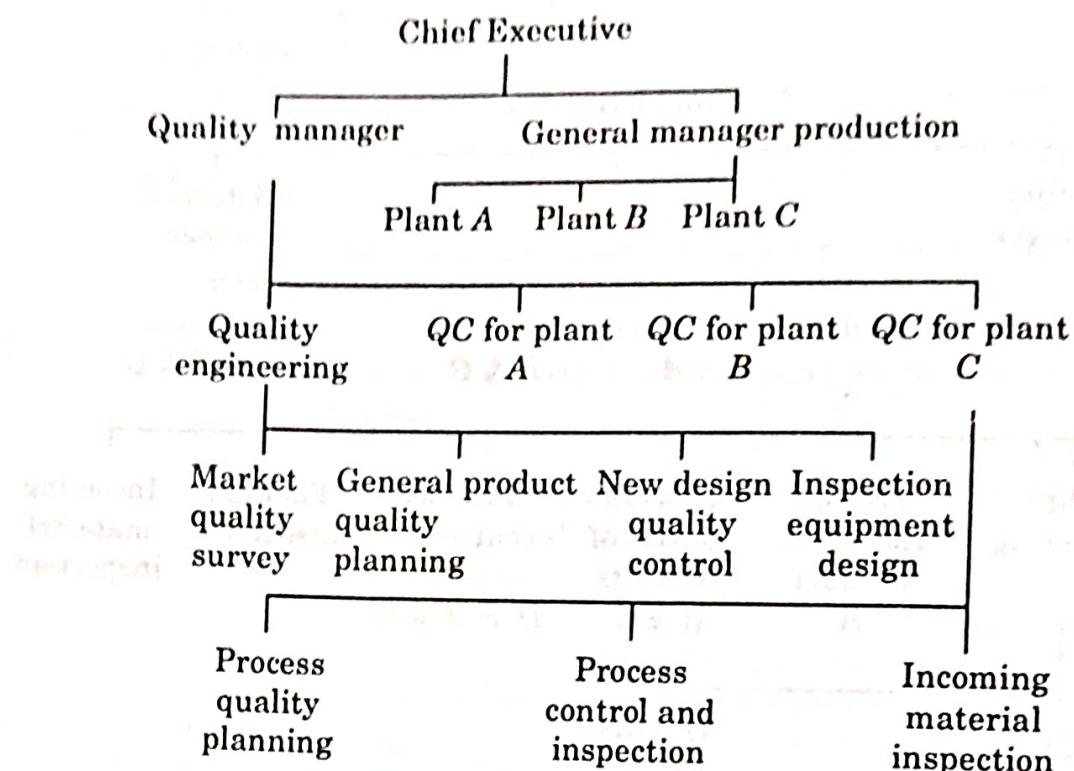

Fig. 2.3.3.
1. The Fig. 2.3.3 shows the quality organization in a relatively large company with more than one manufacturing plant for the same product.